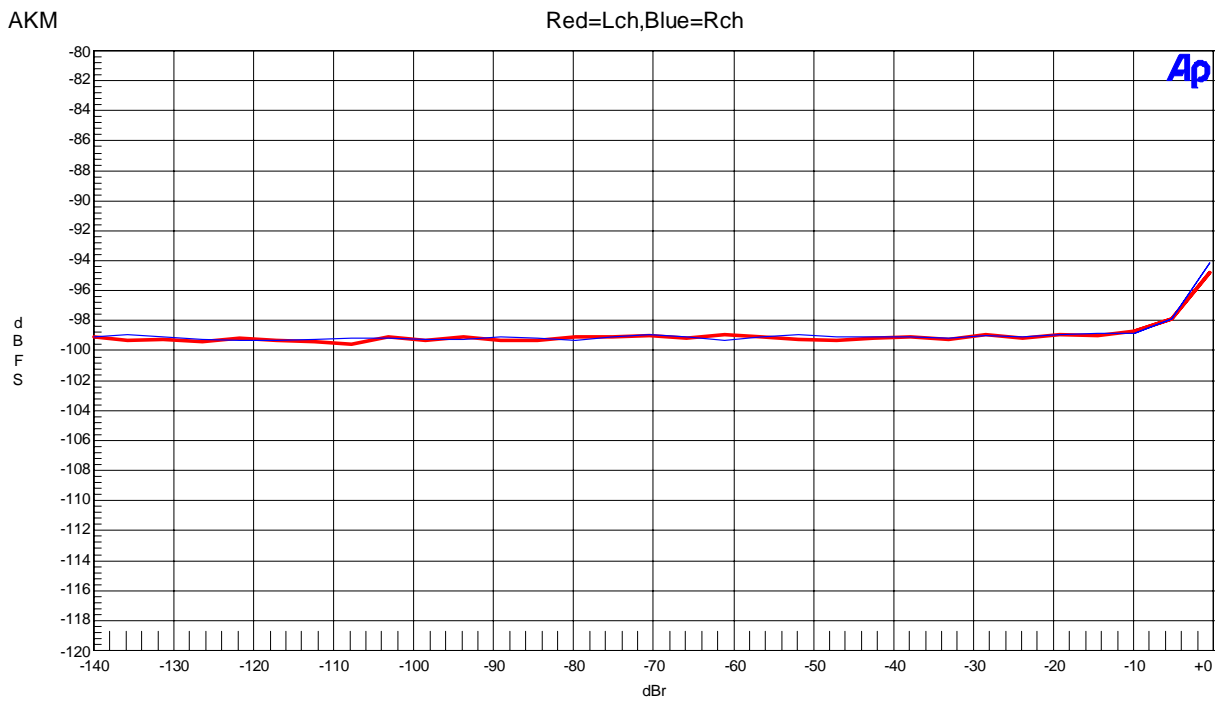

Figure 11. THD + N vs Input Level(Input Frequency=1kHz)
- Figure 11. THD+N vs Input Frequency (Input Level=0dBFS)